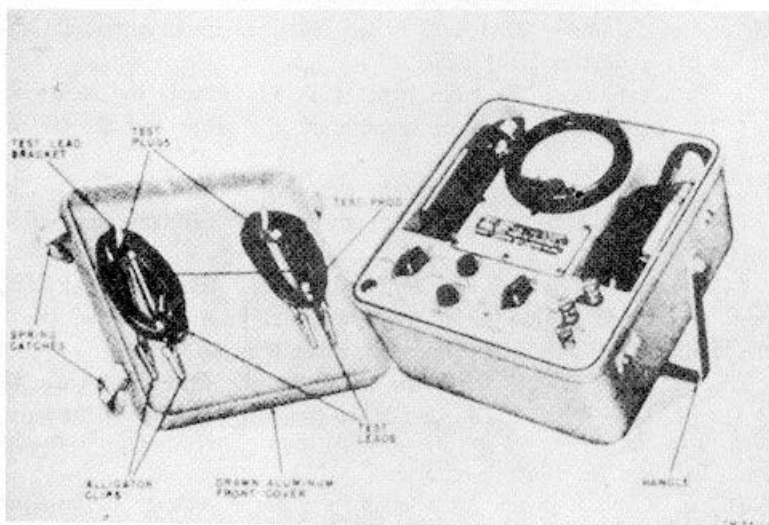
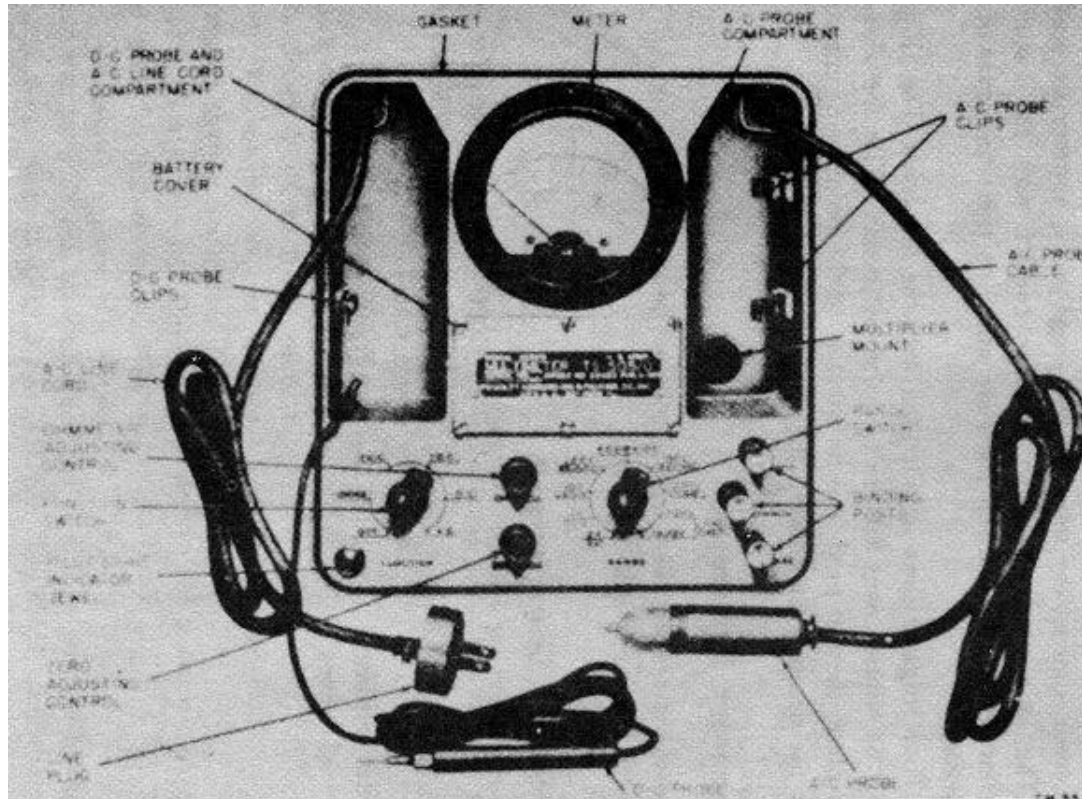
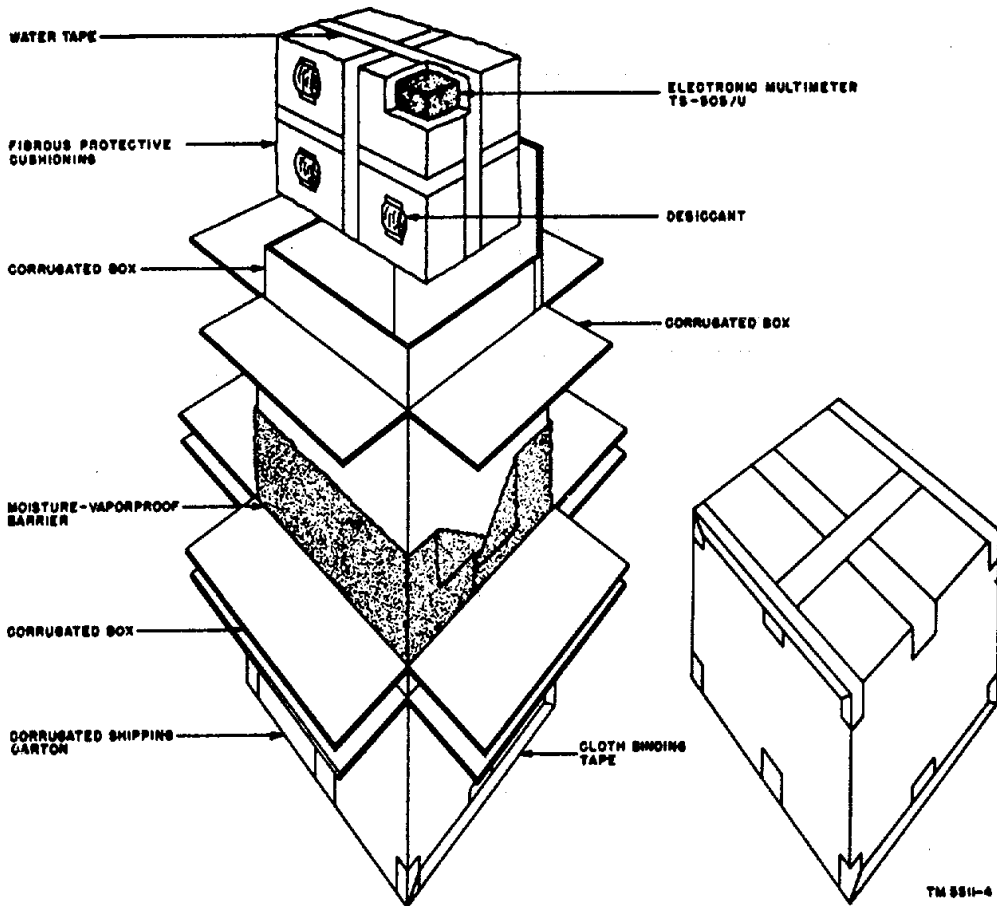

Figure 2. Electronic Multimeter TS-505/U, with handle locked in position.
Figure 3. Electronic Multimeter TS-505/U, front panel.
Figure 4. Electronic Multimeter TS-505/U, packing details.
a. DESCRIPTION OF ELECTRONIC MULTIMETER. (1) Electronic Multimeter TS-505/U is a general purpose a-c (alternating-current) and d-c (direct-current) vacuum-tube voltmeter and a d-c ohmmeter. It is a self-contained unit.
(2) The cover of the multimeter is attached with four spring catches (fig. 2). Two sets of test leads for use with the multimeter are contained in the cover. The handle may be pivoted and locked into position to act as a stand, thus permitting the operator to place the multimeter at a comfortable viewing angle (fig. 2). Six screws are used to attach the rear cover of the multimeter. These screws serve as legs which protect the meter case when it is placed in a horizontal position.
(3) The multimeter is made completely watertight by means of two peripheral rubber gaskets (on the back and on the front of the front panel); by rubber gaskets behind the meter and the battery cover; and by O rings, or washers, behind the potentiometers, the switches, the binding posts, and the pilot light indicator jewel.
c. EQUIPMENT FEATURES. (1) Voltages and resistances are measured by a specially calibrated milliammeter. The d-c and a-c voltages are read on the outer arc (black) of the scale (fig. 3). The resistance scale is the second largest arc (green). The zero center d-c scale is the third largest arc (blue). The 0- to 2-volt a-c range is the innermost arc (purple). The meter is hermetically sealed.
(2) There are nine d-c voltage ranges which permit measurement of voltages from .05 to 1,000 volts. The appropriate voltage range is selected with the RANGE switch. The input resistance is 20 megohms on all d-c voltage ranges except the 1,000-volt range; for the 1,000-volt range, the input resistance is increased to 50 megohms.
(3) There are seven a-c voltage ranges which permit measurement of voltages from .05 to 200 volts. The appropriate voltage range is selected with the RANGE switch. The input capacity is 2 uuf (micromicrofarads) shunted by a resistance greater than 6 megohms over the audio range.
a. FRONT PANEL. The front panel (fig. 3) includes the following:
- (1) A compartment for storing both the d-c probe and the a-c line cord.
- (2) A compartment for storing the a-c probe.
- (3) A 0- to 1-ma (milliampere) meter calibrated for the various ranges.
- (4) Three binding-post type terminals for test leads. These binding posts are labeled OHMS, COMMON, and CASE. A rectangular slot in the binding posts will accept pin jacks, spade lugs, or wire.
- (5) A FUNCTION switch for switching the meter on when the A C, +D C, ±D C, -D C, or OHMS position is selected. This switch also turns the power off in the OFF position. The pointer on the bar knob indicates the function selected.
- (6) A RANGE switch for selecting the proper voltage or resistance range. The pointer on the bar knob indicates the range selected.
- (7) An ohmmeter adjusting control (OHM ADJ) to compensate for the decrease of the ohmmeter battery voltage.
Electronic Multimeter TS-505 U is individually wrapped in a waterproof, fiberboard container and packed in a fiberboard packing case (fig. 4). The dimensions and weight of the multimeter packaged complete with tubes and technical literature are shown in the table below.
(1) Place the packing case (fig. 4) in a convenient location where it may be opened easily.
(2) Cut the cloth binding which seals the exterior carton in such a manner as to leave the carton undamaged. Open the carton. Remove the inner corrugated box and open it.
(3) Lift the moisture-vaporproof barrier from the carton. Open the side of the carton and pull out the inner carton.
(4) Carefully cut the tape sealing the inner fiberboard box so that the carton will not be damaged. Open the carton. Remove the inner corrugated box and open it.
(5) Remove the cushioning and desiccant from the inner fiberboard box.
(6) Carefully lift the multimeter from the inner carton and place it on a solid table or workbench.
(7) Place the cushioning and the cartons into the outer carton for future use. They can be used again when the multimeter is repacked for storage or shipment (ch. 5).
(8) Check the contents against the master packing slip and against the list of components in paragraph 4. The test leads will be found on the front cover.
c. INSPECTION. (1) Inspect the multimeter thoroughly. Make sure that it has not been damaged in shipment or during unpacking. Inspect the carrying handle to see that it swings freely on the pivot point and will lock in position (fig. 2) to support the meter in an inclined position.
(2) Check the four catches on the front cover. Remove the front cover by unfastening the catches.
13. Controls (fig. 3)